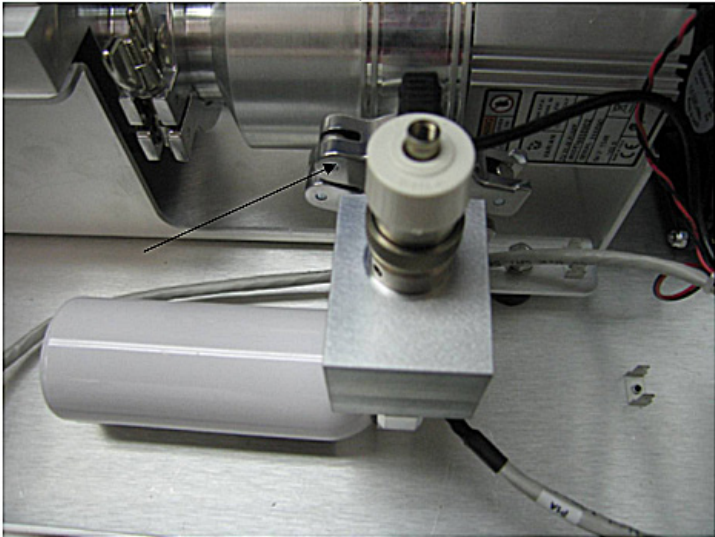

Figure 3: Remove Clamp
5. Loosen and remove the clamp (Figure 3: Remove Clamp).